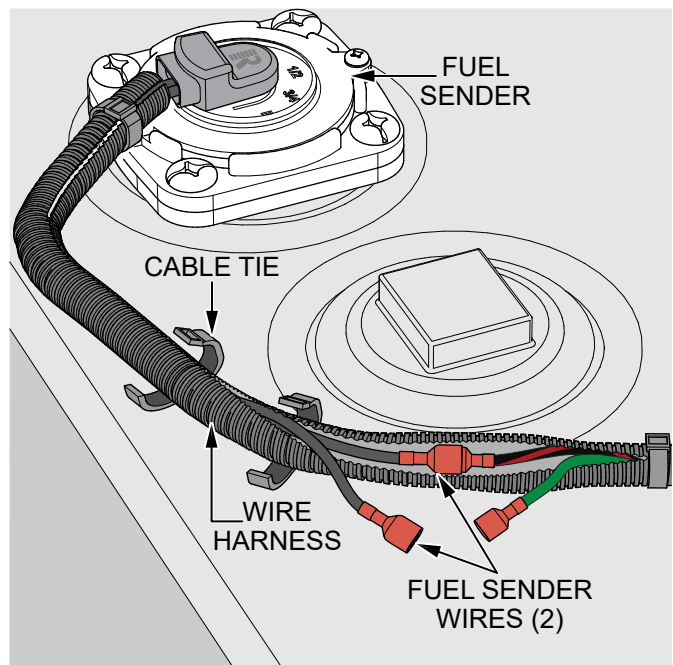

Figure 3. Disconnect Fuel Sender Wires
3. Disconnect the **two fuel sender wires** (Figure 3) from the **wire harness**. Cut and remove **cab** ties as needed to access the wiring.